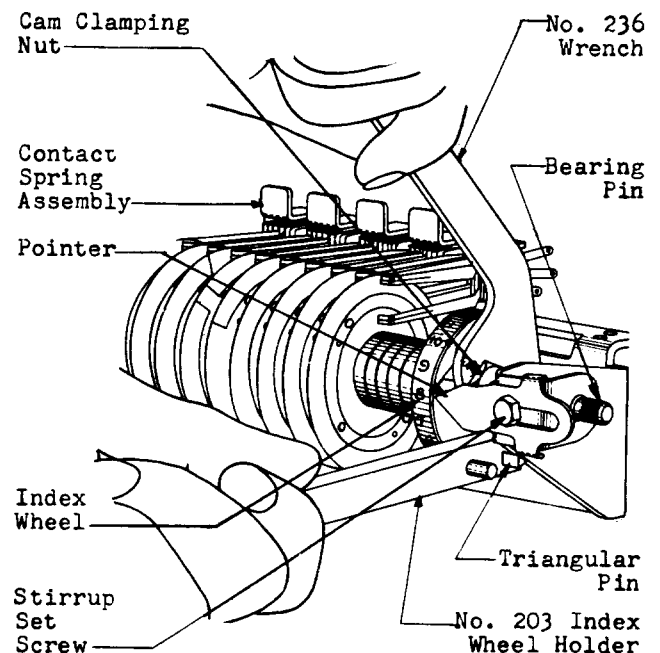

Fig. 14 - Method of Loosening the Cam Clamping Nut
3.25 Loosen the cam clamping nut with the No. 236 wrench while holding the index wheel with the No. 203 index wheel holder, as shown in Fig. 14.